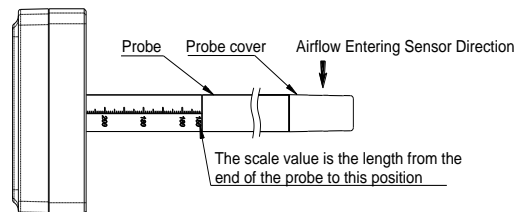
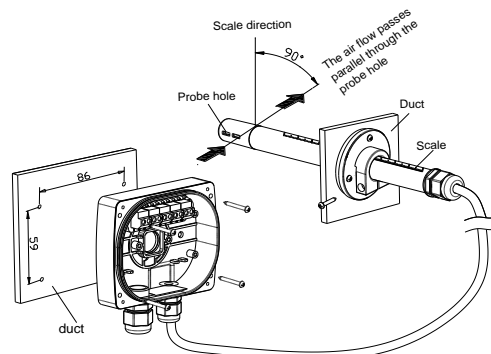

Fig 2
Fig 5
- (2) The depth of the probe insertion: the probes have scales as shown in Fig 2 below. The scale value is the length from the end of the probe to this position. It means, the scale value can be seen and read from outside is the depth of the inserted part.
- (3) The flow direction and angle: It was calibrated in standard wind tunnel with fixed air flow direction in factory. So, it should be installed with the same flow direction, as Fig 2 and 3 below. The flow direction should be exactly 90° angle with the scale line on the probe, as shown in Fig 5.
Housing installation: open the front cover, as shown in Fig 5 below, and fix the base on the installation surface with 4 screws.